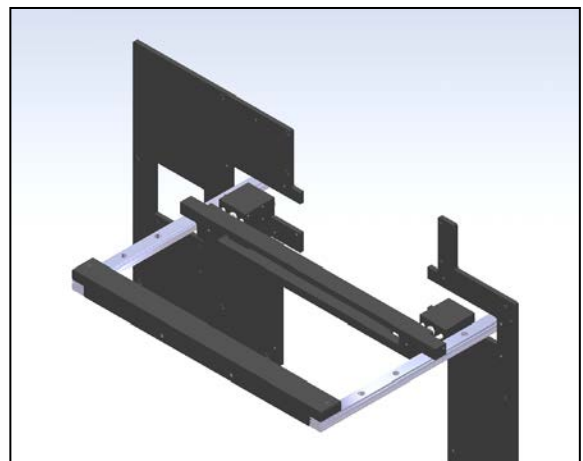

Figure 3-322. Reinstalling the Stripper Plate Assembly
13. Reinstall the stripper plate assembly into the machine. Place on top of the jaw guide rails with the spring blocks turned 90° from their mounting position, and slide through the plate. Once the stripper plate is completely into the machine, turn the spring blocks to their mounting positions, and insert the eight mounting screws through the horizontal plate (Figure 3-322).